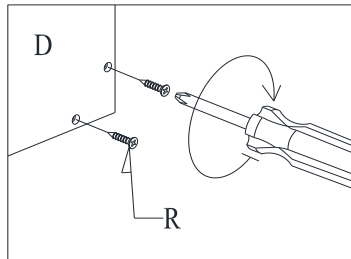

Fig. 6
8. Attaching Adjustable Shelves as shown in **fig. 6, illustration. 6 & 7**:
- Determine desired height for Shelf (F), insert the Shelf Pins (Q) in the pre-drilled holes located on the side panels of the cabinet until they are fully secure.
- Put the Shelf (F) into the cabinet by inserting the shelf “diagonally”. Place adjustable Shelf (F) onto the Shelf pins (Q). Make sure the shelves are stable.